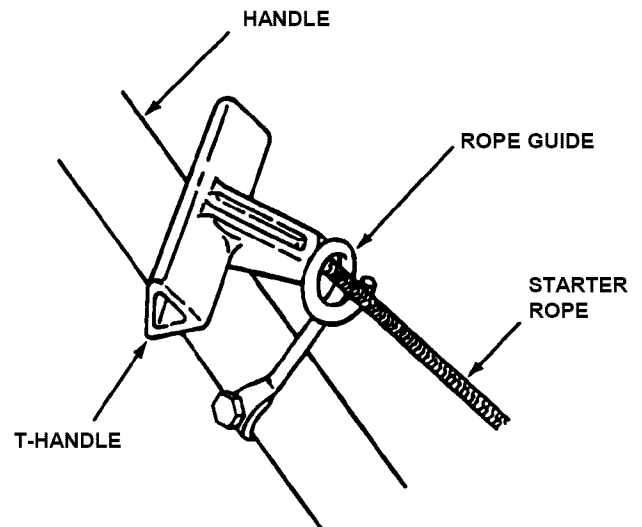

FIGURE 3
STEP 4: Pull blade control against upper handle, pull rope start handle and loop into rope guide. See Figure 3.